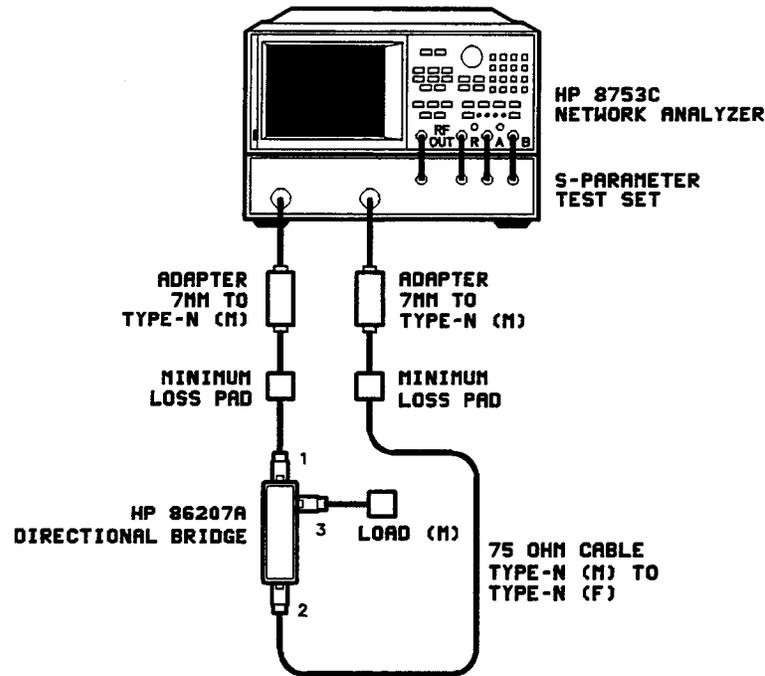

Figure 3-2. Equipment Setup for Insertion Loss Measurement
3. Connect the equipment as shown in Figure 3-2.